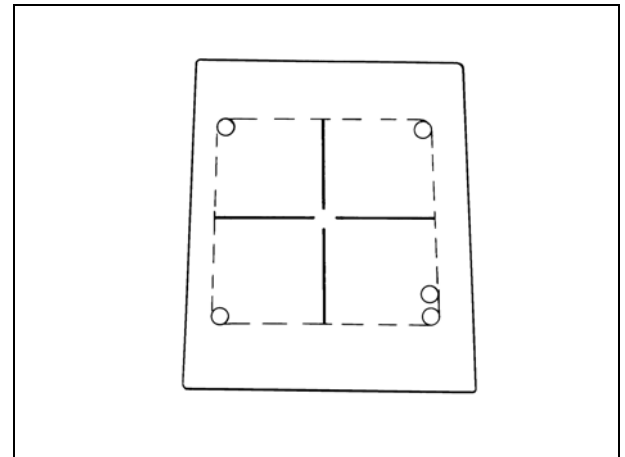

Fig. 13
- Mark the four corners with coins and mark one of the corners with two coins (Fig. 13).